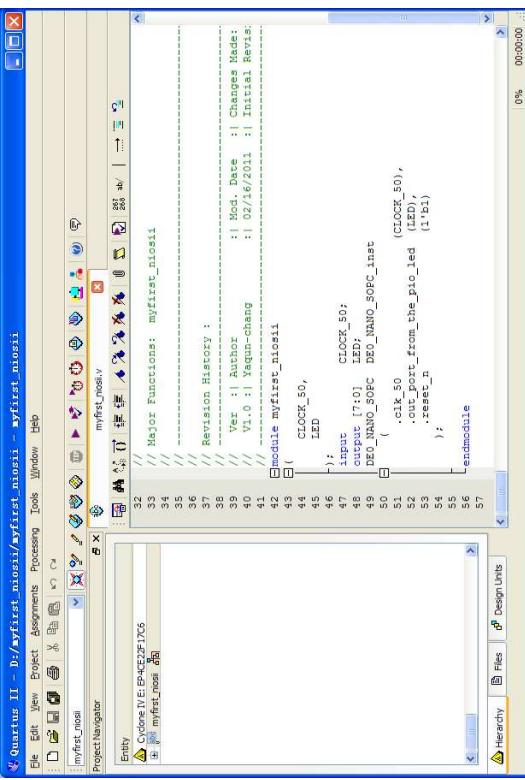

Figure 7-43 Input verilog Text
34. Type the following Verilog into the blank file, as shown in Figure 7-43. The module **DE0\_NANO\_SOPC** is the system created by SOPC Builder and its Verilog can be found in the **DE0\_NANO\_SOPC.v** file, as shown in